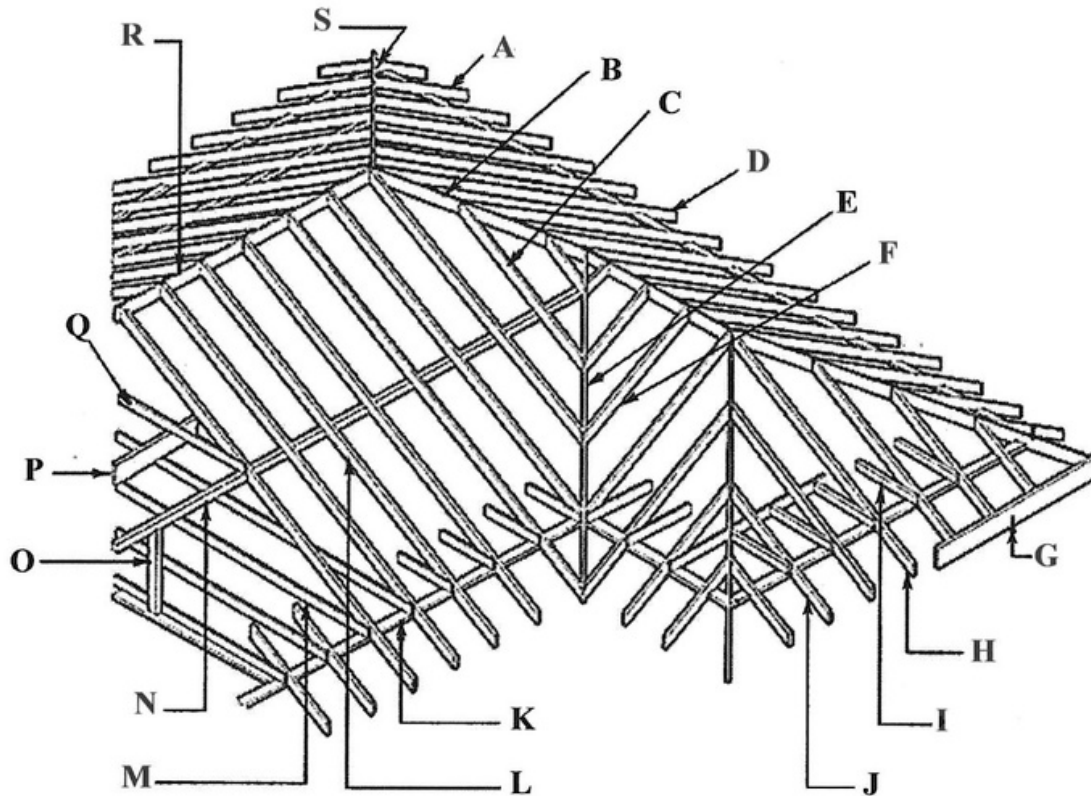

Figure 3
5. **Figure 3** below shows a diagram of a Hip Valley roof framing structure.